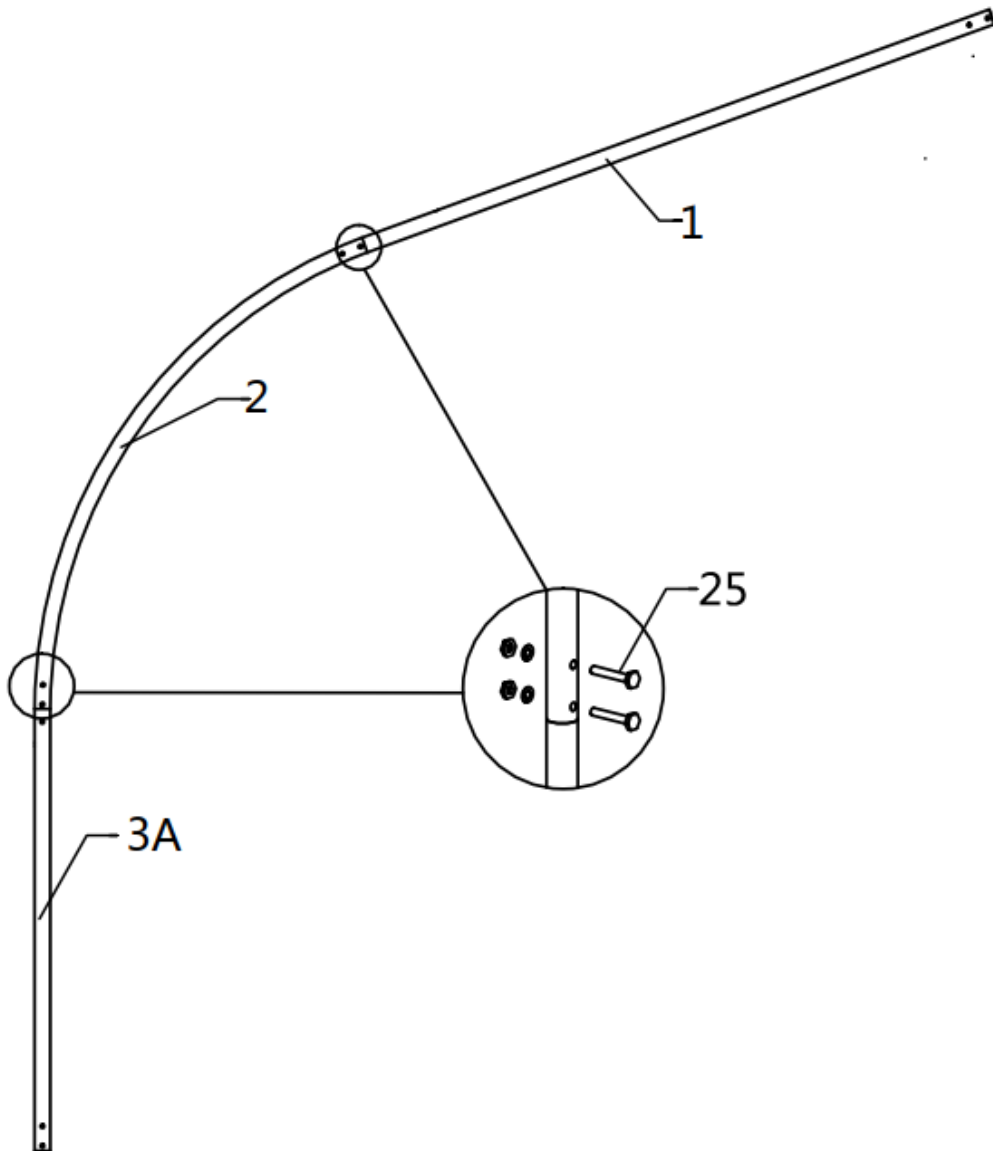

Figure 2
- The building includes 6 trusses : (1) The former truss, and (1) Rear truss, and (4) middle trusses. Please note the difference between the front, middle and rear trusses.
- First assemble the three main pipes of the truss (refer to figure 2) .Note the distinction between sidewall tube (#3) and sidewall tube (#3A)
- (1) Top inclined tube (#1)